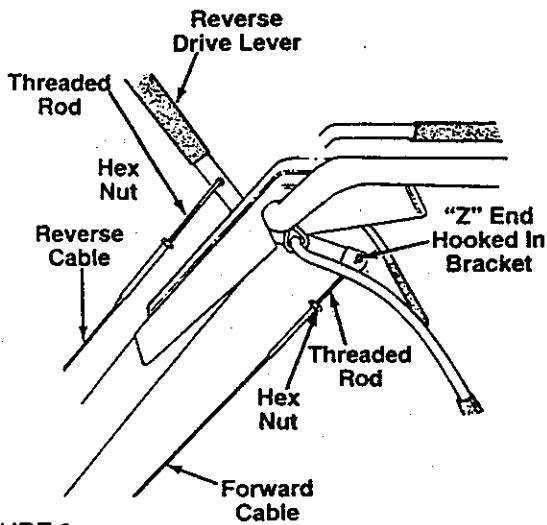

FIGURE 3
1. Loosen the hex nut on the threaded rod near the end of the cable, and move it up the rod as far as it will go. See figure 3.